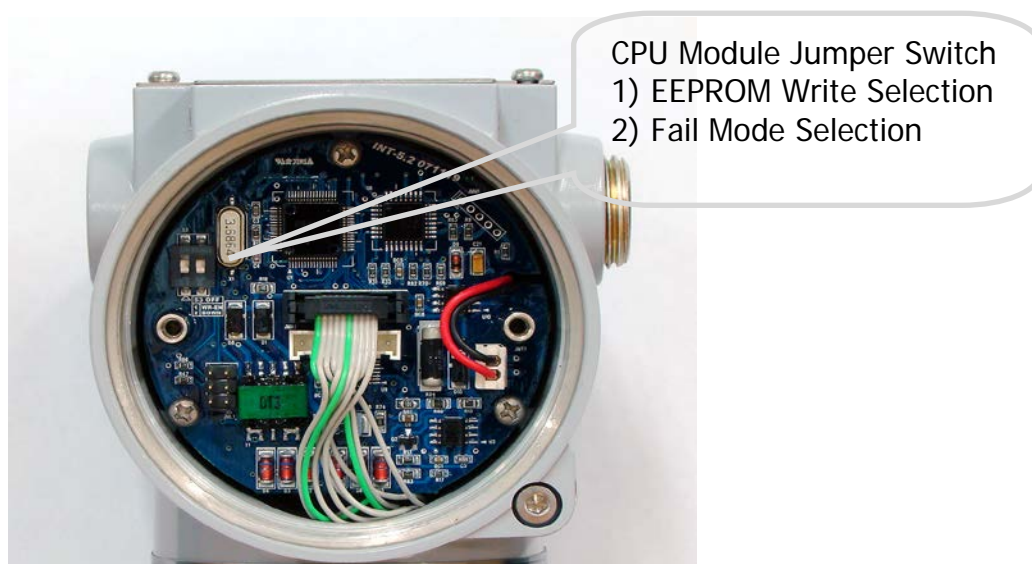

Figure 5-3. CPU Module Fail Mode, EEPROM-Write Selection Jumper Switch
<p>NOTE</p>	<p>DIP Switch (1) shown on Left in Fig 5-3 is for Write Enable/ Disable selection. DIP switch (2) shown on right in Fig 5-1 is for Fail Mode.</p>